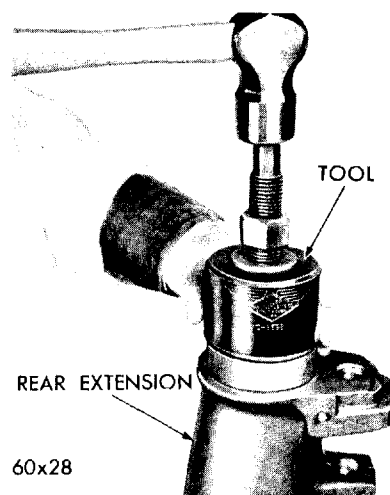

Fig. 27—Installing Output Shaft Rear Bushing
(1) Place new bushing on driver burnisher, Tool C-3692, with lubrication hole in bushing toward end of tool. Align hole in bushing with lubrication hole in housing and drive bushing into housing until tool bottoms. Refer to Figure 27.